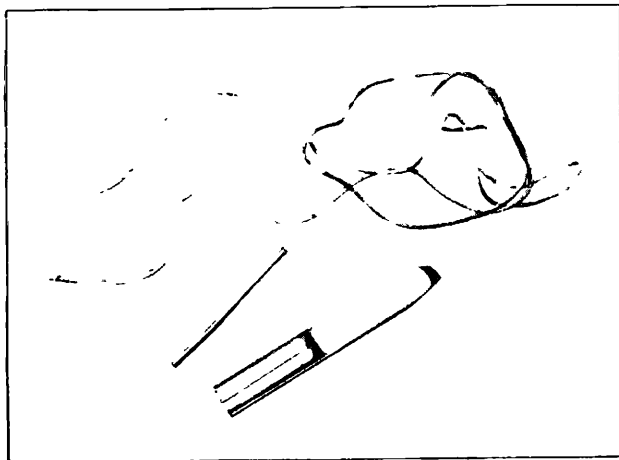

Fig. BF-15 Tools for installation of windshield glass
1. For the installation, use string and spatula shown Figure BF-15.